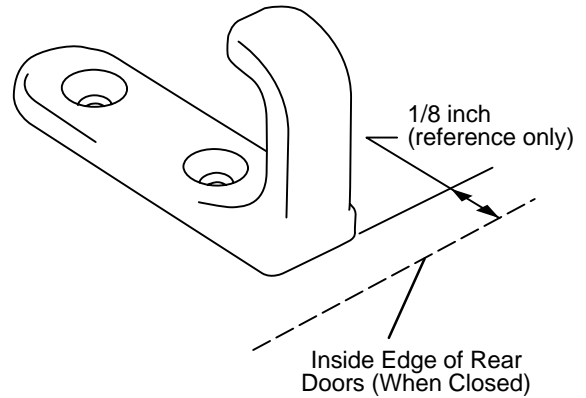

Figure 4a – "J" Safety Hook Placement
3. Center the safety hook (Figure 4a) on the cot safety bar. Be sure the hook is facing the front of the vehicle.